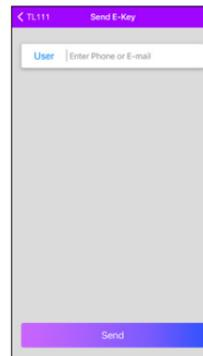

Fig. 8
Step 3. Enter the user’s E-mail or phone number, whichever the user registered with (Fig. 8).